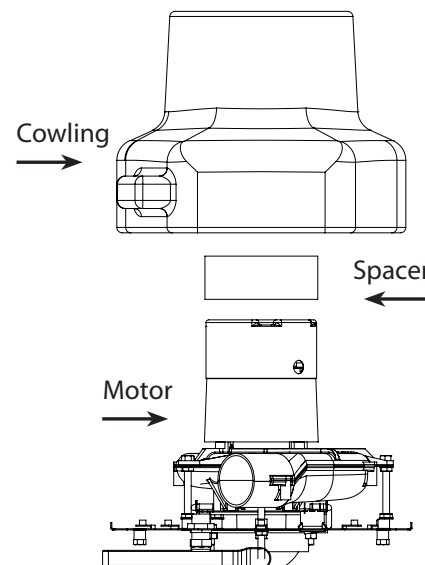

FIG. 3
- 3 Remove the cowling and the spacer to access the motor [FIG. 3].